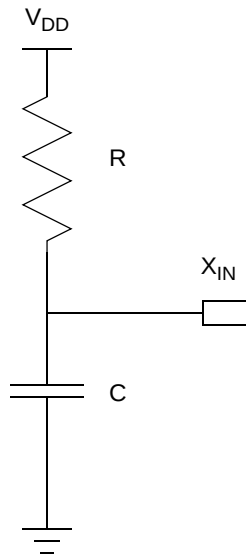

**Figure 35. Connecting the On-Chip Oscillator to an External RC Network**
The External RC oscillator mode is applicable to timing insensitive applications. Figure 35 on page 169 displays a recommended configuration for connection with an external resistor-capacitor (RC) network.